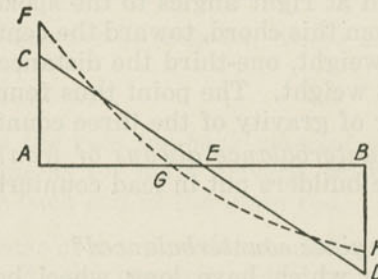

Fig. 257. Acceleration Diagram.
A. As in Fig. 257, in which the centrifugal force is ac-